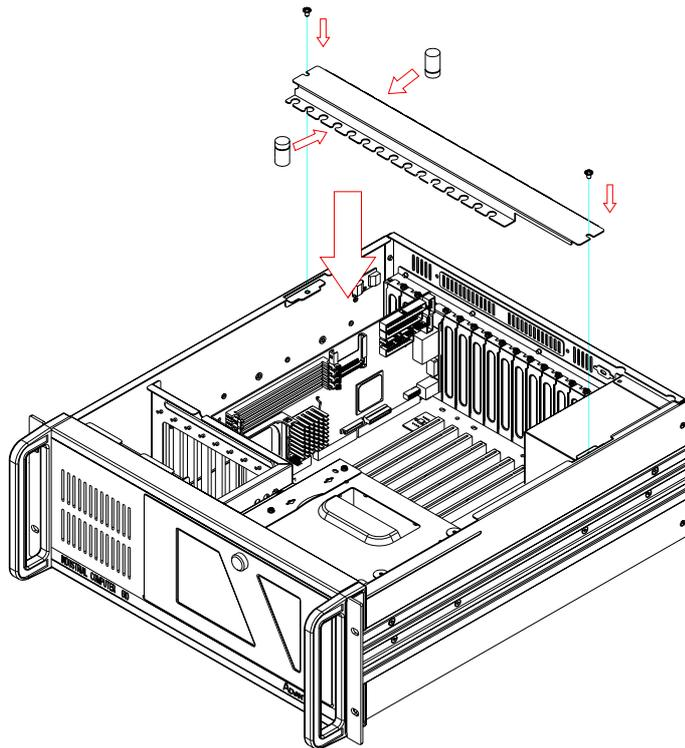

Figure 2.6 Installing rubber cushions and hold-down clamp
1. There are two rows of notches on both sides of the hold-down clamp for inserting into rubber cushions provided in the accessory. One side is for PCI cards, while the other side is for ISA cards. Depending on the card height, the cushions can be inserted upward or downward. After the rubber cushions have been inserted into the notches, they will stabilize the add-on cards to protect them from shock and vibration. (see Figure 2.6)